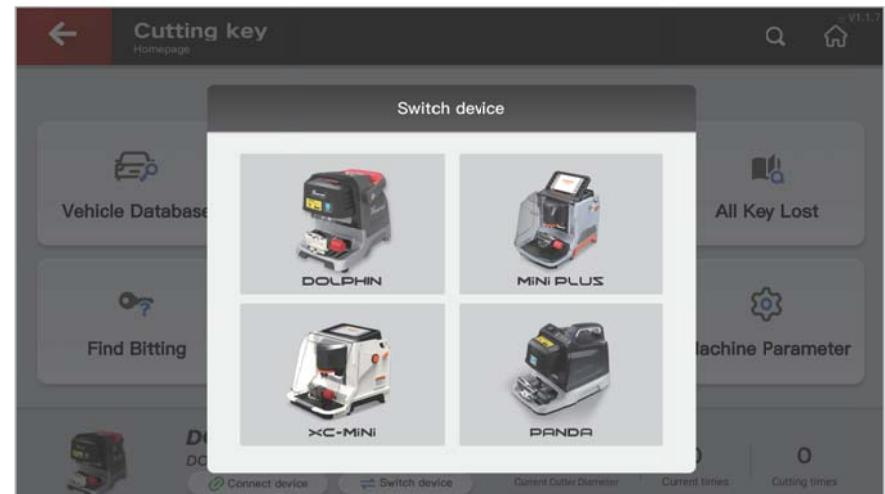

Fig.9.1.1
- ① Click 'Switch device', select the machine you need as shown in Fig. 9.1.1.